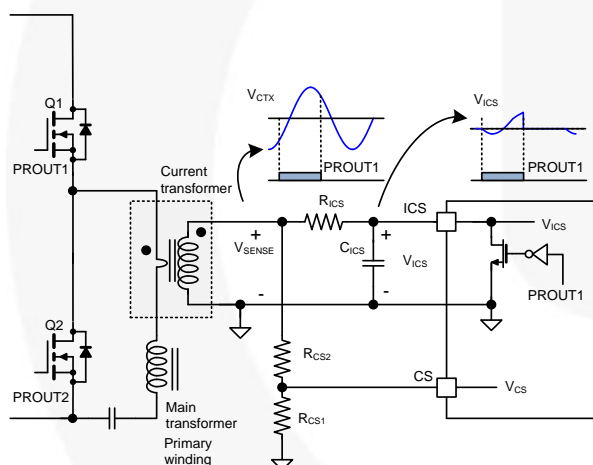
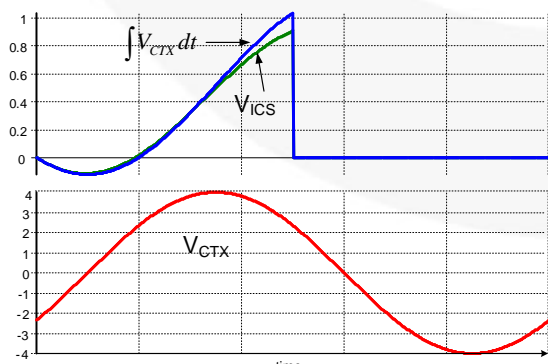
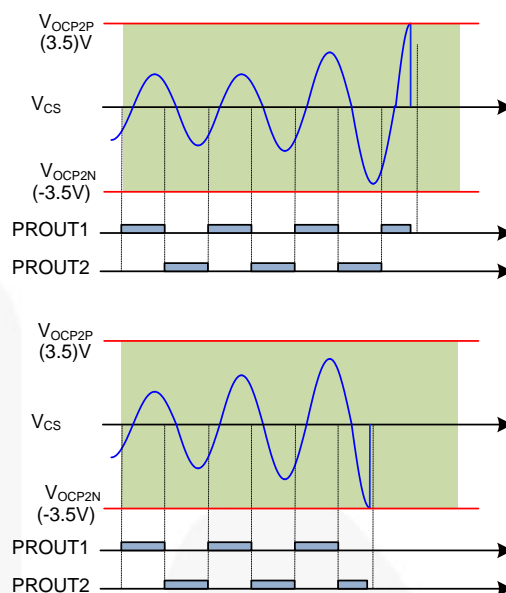

Figure 61. Current Sensing of FAN7688
Figure 62. Generating the Integral Signal (V_{ICS}) from V_{SENSE}
Figure 66. Over-Current Protection of the CS Pin
FAN7688 senses instantaneous switch current and the integral of the switch current as illustrated in Figure 61. Since FAN7688 is located in the secondary side, it is typical to use a current transformer for sensing the primary side current. While the PROUT1 is LOW, the ICS pin is clamped at 0 V with an internal reset MOSFET. Conversely, while PROUT1 is high, the ICS pin is not clamped and the integral capacitor (C_{ICS}) is charged and discharged by the voltage difference between the sensing resistor voltage (V_{SENSE}) and the ICS pin voltage. During normal operation, the voltage of the ICS pin is below 1.2 V since the power limit threshold is 1.2 V. The current sensing resistor and current transformer turns ratio should be designed such that the voltage across the current sensing resistor (V_{SENSE}) is greater than 4 V at the full load condition. Therefore the current charging and discharging C_{ICS} should be almost proportional to the voltage across the current sensing resistor (V_{SENSE}). Figure 62 compares the V_{ICS} signal and the ideal integral signal when the amplitude of V_{SENSE} is 4 V. As can be seen, there is about 10% error in the V_{ICS} signal compared to the ideal integral signal, which is acceptable for most designs. If more accuracy of the V_{ICS} is required, the amplitude of V_{SENSE} should be increased.
- (1) Non-ZVS Prevention: When the compensation voltage (V_{COMP}) is higher than 3 V and V_{CS} peak value is smaller than 0.3 V, non-ZVS condition is detected, which decreases the internal compensation signal to increase the switching frequency.
- (2) Over-Current Protection (OCP2): When V_{CS} is higher than 3.5 V or lower than -3.5 V, over-current protection (OCP) is triggered. The instantaneous primary side current is also sensed on CS pin. Since the OCP thresholds on the CS pin are 3.5 V and -3.5 V as shown in Figure 66, the CS signal is typically obtained from V_{SENSE} by using a voltage divider as illustrated in Figure 61. 150 ns debounce time is added for OCP.